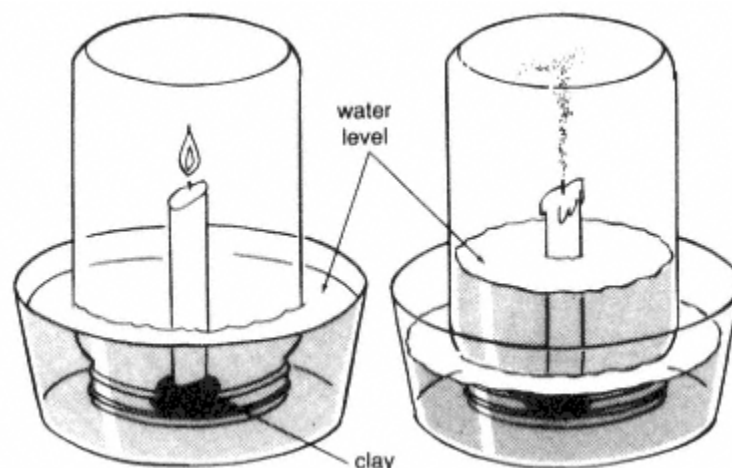

Figure 3.1
5. Turn the jar upside down, quickly lower it over the burning candle, and stand it on the bottom of the bowl (see Figure 3.1).